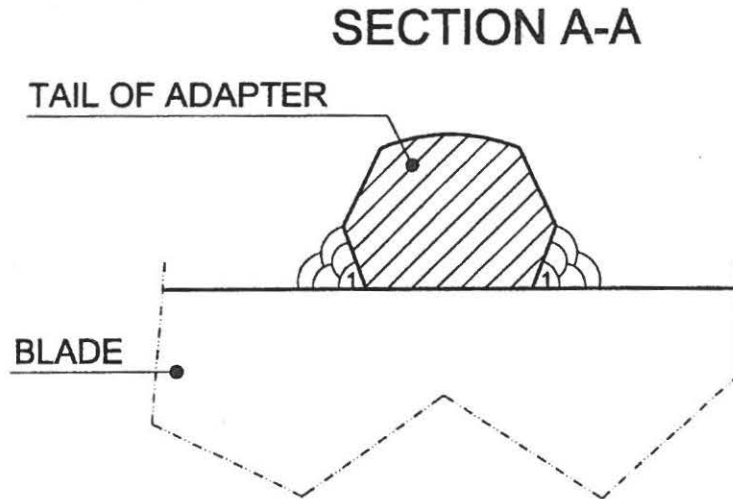

Figure 9.4
1. Weld the tail of the adapter. See figure 9.4. For sequence of stringer beads see cross section A-A. Complete the welds around the tail of the adapter.